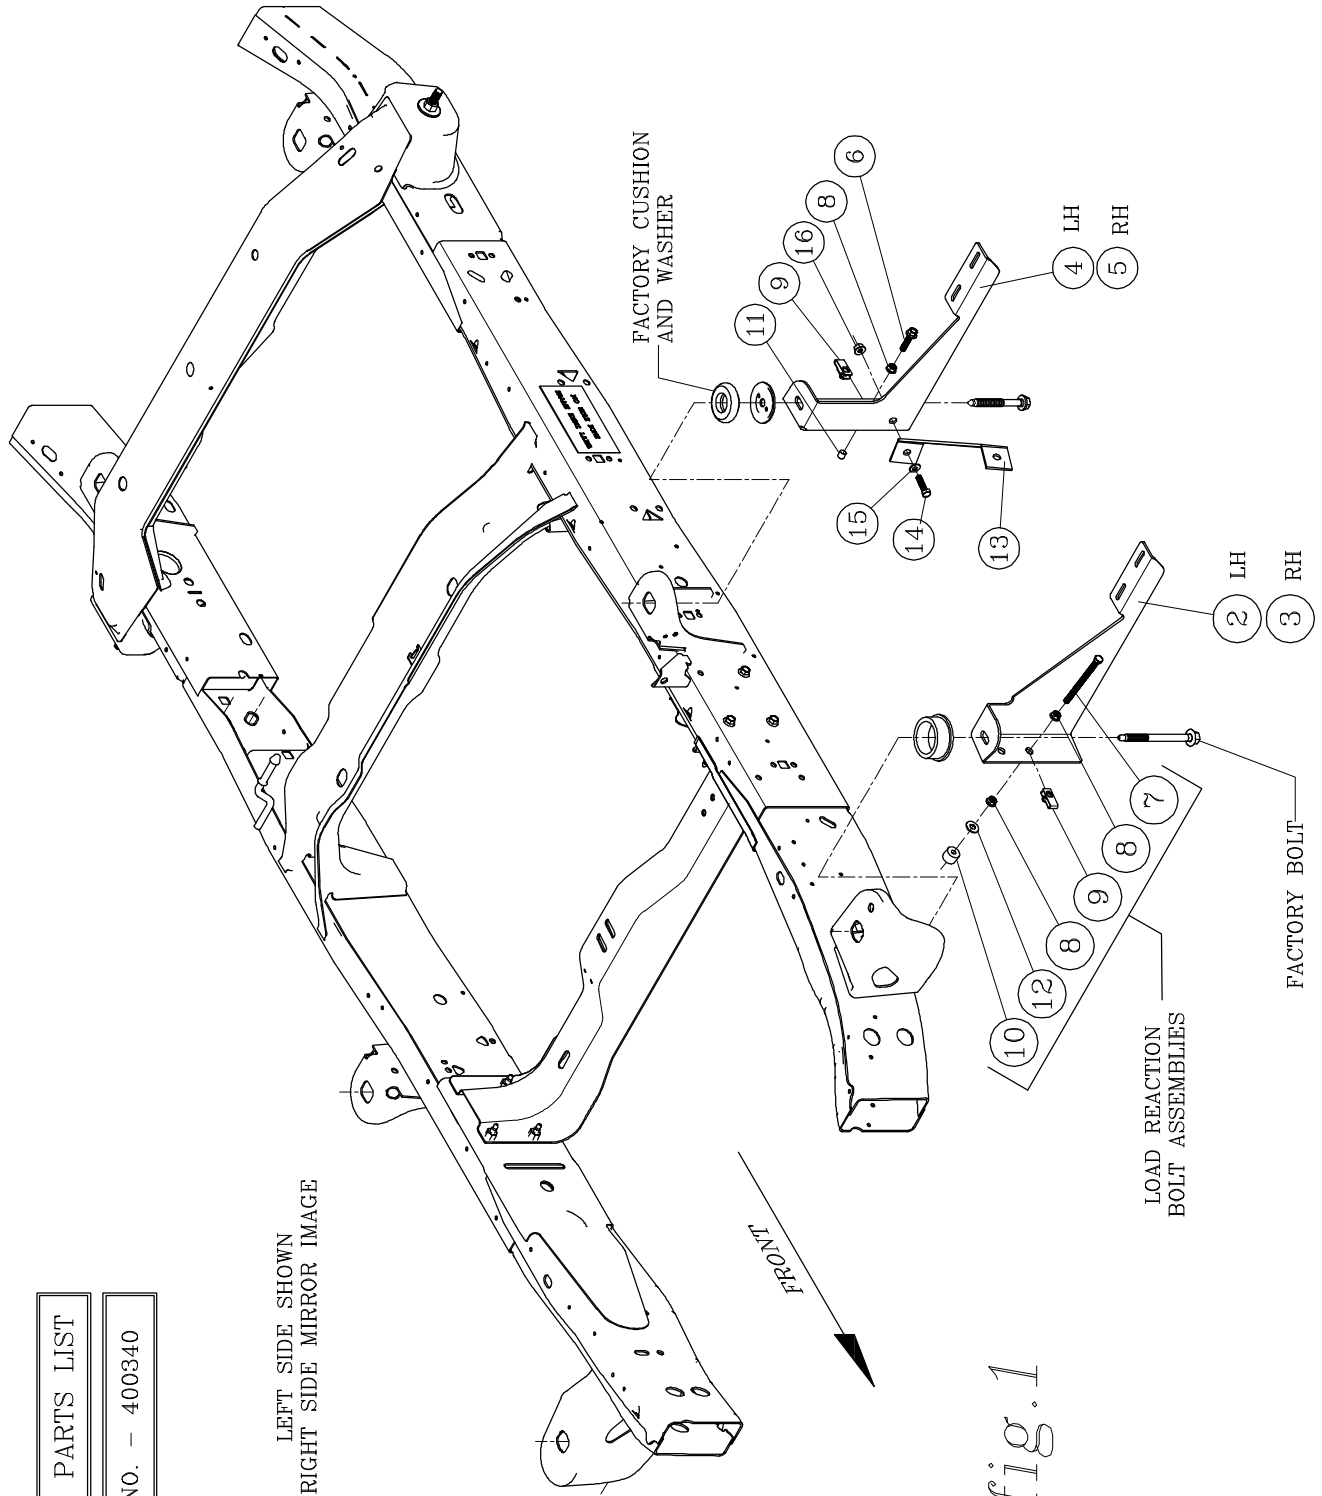

fig.1
4. INSTALL A 3/8"-16 SERRATED FLANGE NUT (ITEM #8) ON THE 3/8"-16 X 5" HEX BOLT (ITEM #7) WITH THE FLANGE FACING TOWARD THE END OF THE BOLT AND TURN ON JUST SHORT OF THE HEAD. SCREW THE BOLT INTO THE U-NUT AND WHEN IT COMES THROUGH THE OTHER SIDE START ANOTHER FLANGE NUT FACING THE SAME DIRECTION AS THE FIRST NUT. TURN THE NUT ON UNTIL THERE IS 11/16" PROTRUDING FROM THE FACE OF THE NUT, INSTALL A 3/8" FLAT WASHER (ITEM #12) AND THE .354 X 1.00 X .748 RUBBER WASHER (ITEM #10) INTO THE END OF THE BOLT. ADJUST THE LOAD REACTION BOLT ASSEMBLY SO THAT THE RUBBER CUSHION IS SNUG AGAINST THE FRAME AND TIGHTEN DOWN THE OUTSIDE FLANGE NUT. **(LOAD REACTION BOLT ASSEMBLY)** AS SHOWN IN *fig. 1*.
8. INSTALL A 3/8"-16 SERRATED FLANGE NUT (ITEM #8) ON THE 3/8"-16 X 1-3/4" HEX BOLT (ITEM #6) WITH THE FLANGE FACING TOWARD THE END OF THE BOLT AND TURN ON JUST SHORT OF THE HEAD. SCREW THE BOLT INTO THE U-NUT AND WHEN IT COMES THROUGH THE OTHER SIDE ADJUST THE LOAD REACTION BOLT ASSEMBLY SO THAT THE RUBBER PLUG IS SNUG AGAINST THE FRAME AND TIGHTEN DOWN THE OUTSIDE FLANGE NUT. **(LOAD REACTION BOLT ASSEMBLY)** AS SHOWN IN *fig. 1*.